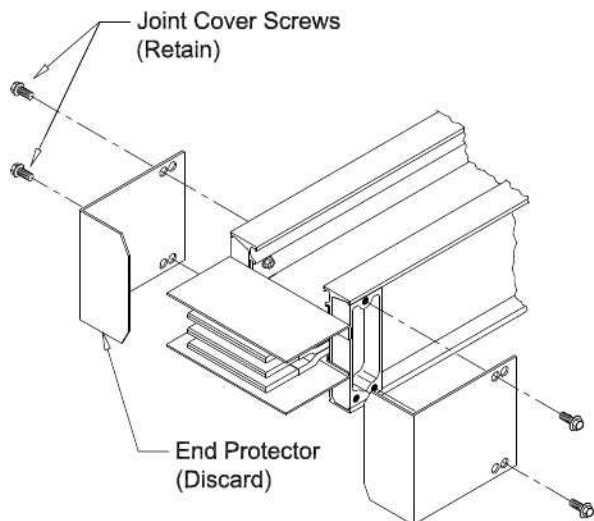

Figure 10. End Protectors
9.1.1 From the end of the busway without a joint stack, remove the two (2) L-shaped end protectors and discard. Retain the four (4) screws (Figure 10).